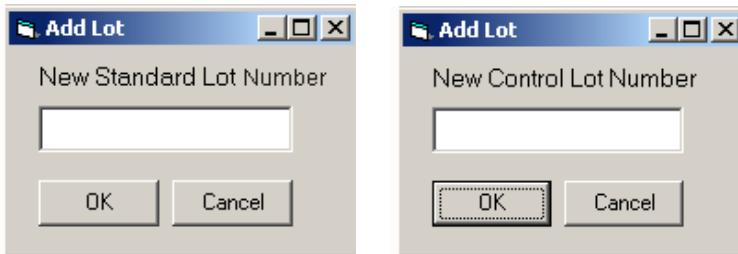

Figure 5-42. Add Lot Standard and Control Dialog Boxes
tinue. Once you enter the numbers, the **Update Lot Information** dialog box opens. See Figure 5-42 and Figure 5-43.
- b.) If the template has associated lot information, the **Update Lot Information** dialog box opens. To create a new lot when there is an existing lot, click **New Lot** on the Standard or Control section of the dialog box. A **New Standard Lot** or **New Control Lot** dialog box opens. Enter the standard or control lot number. See Figure 5-42 and Figure 5-43.